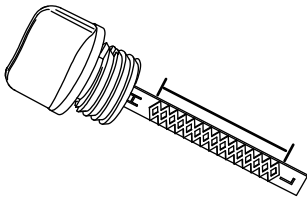

Figure 2-12. Safe Operating Range
4. See Figure 2-12. Slowly add recommended fuel (A). Do not overfill (B).